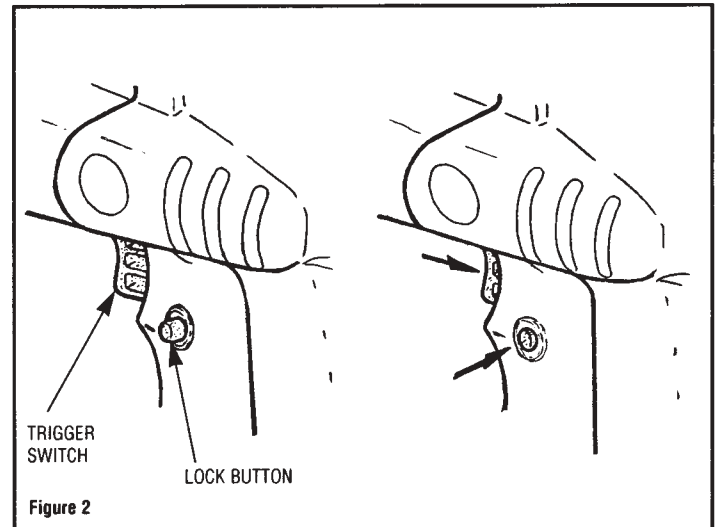

Figure 2
1. Trigger Switch Operation - Holding the trigger switch fully depressed will cause the motor to start, releasing the switch will cause the motor to stop. This switch is also equipped with a locking mechanism which allows continuous motor operation. To use this feature, press the switch lock button with the trigger in the "on" position. Press the trigger switch again to release the switch lock. See figure 2.